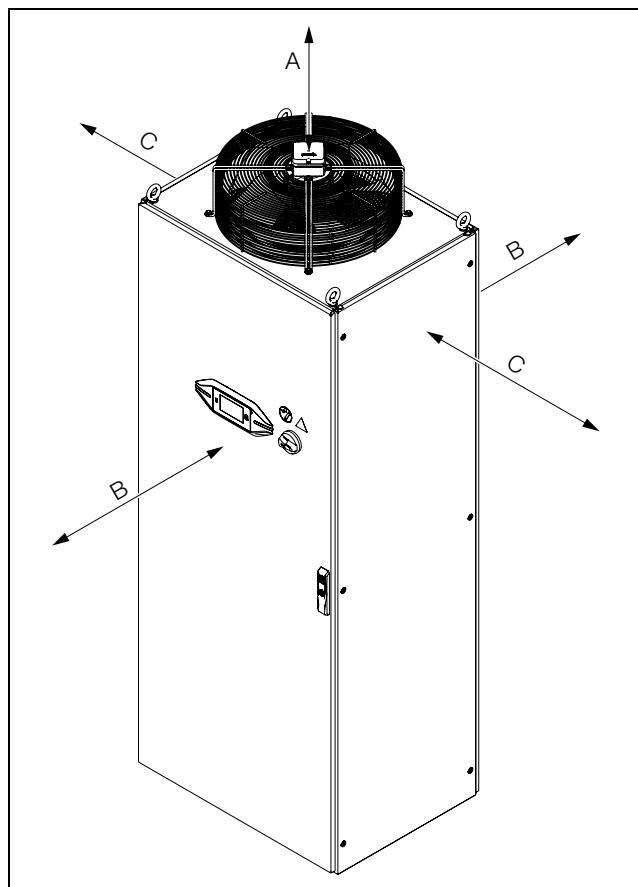

Fig. 7: Minimum distances
- The opening on top of the chiller must be freely accessible to enable the unhindered expulsion of hot air (see fig. 7). To allow connection of the supply lines and facilitate maintenance and repair work, the minimum distances shown under fig. 7 should be adhered to.
- In order to avoid an "air short-circuit" (mixing of air intake and waste air) and ensure full cooling performance, the minimum distances shown under fig. 7 should likewise be adhered to.